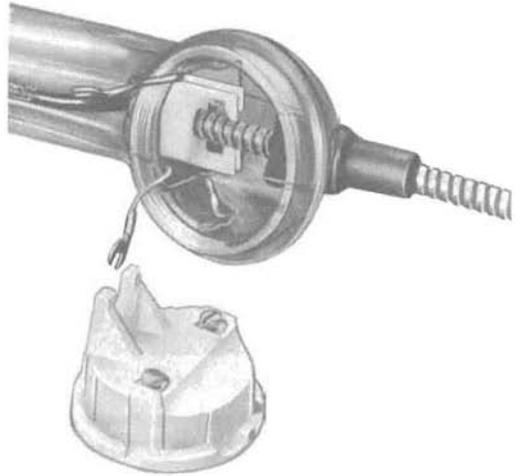

Fig. 15—Handset with Armored Cable
2.25 All current coin collectors and coin telephone sets are equipped with armored handset cords (Fig. 15). Transmitter and receiver caps are cemented to the handset handle. Refer to Section 501-210-102 for complete information on handsets.